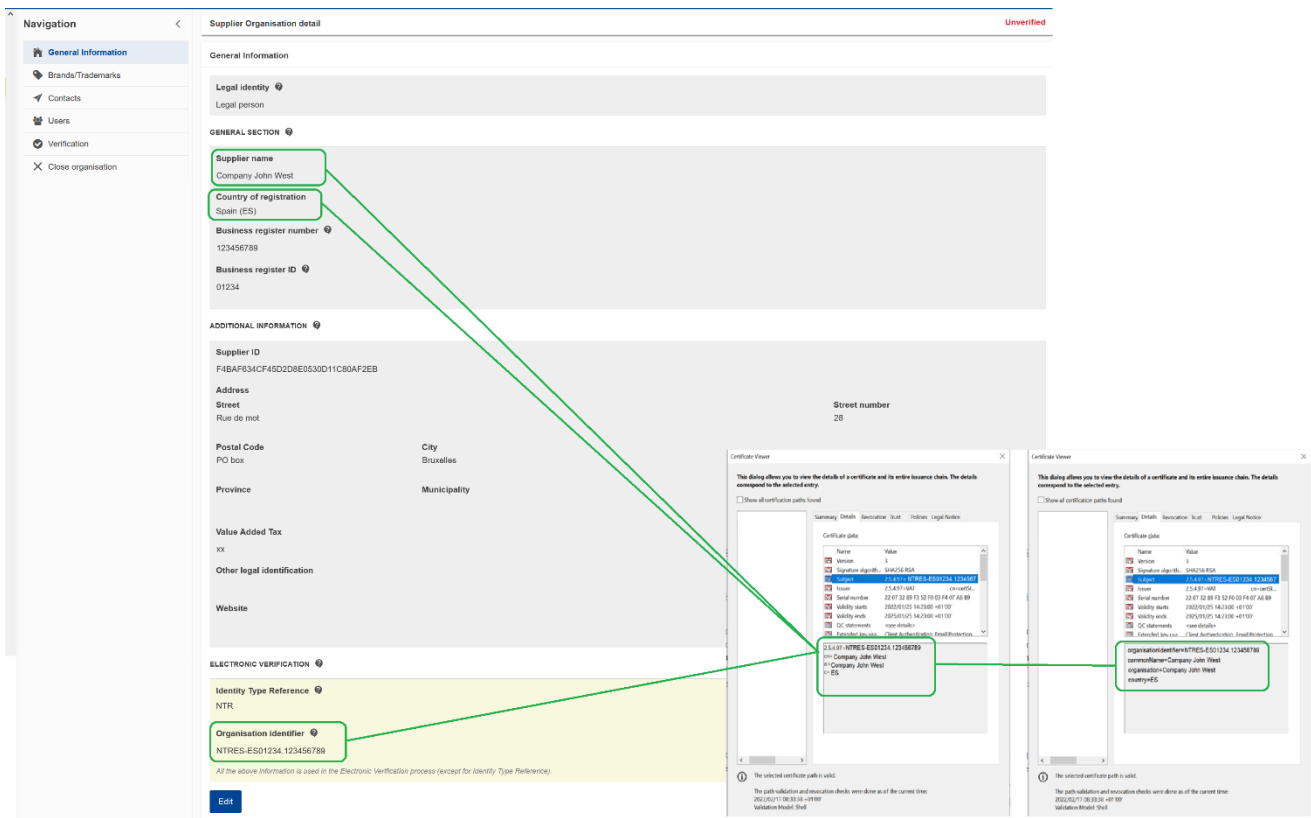

Figure 36 - Show signature parameters
Step 3 – once you opened the signature properties, you need to see the metadata of your certificate, by clicking on “Show Signer’s Certificate”, (Figure 36 - Show signature parameters)